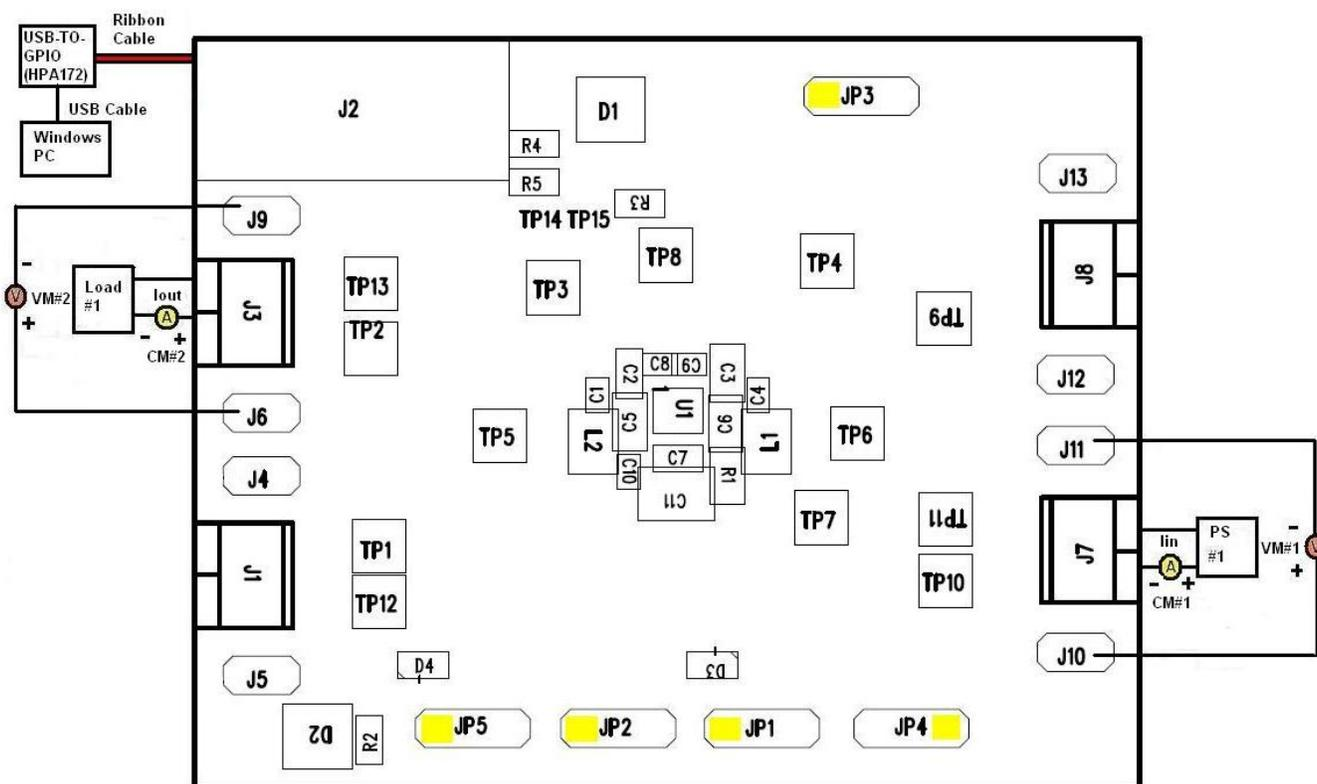

Figure 4. Test Setup for USB OTG Boost Mode
3. Set the Load #1 so that either constant current or equivalent resistance yields a $200 \text{ mA} \pm 20 \text{ mA}$ dc load, then disable the output. Connect the output of the Load #1 in series with a current meter (multimeter) to J3 (VBUS, GND). Ensure that a voltage meter is connected across J6/TP2 and J9/TP13 (VBUS, GND). The setup is now configured as is shown in Figure 4 for PWR003.